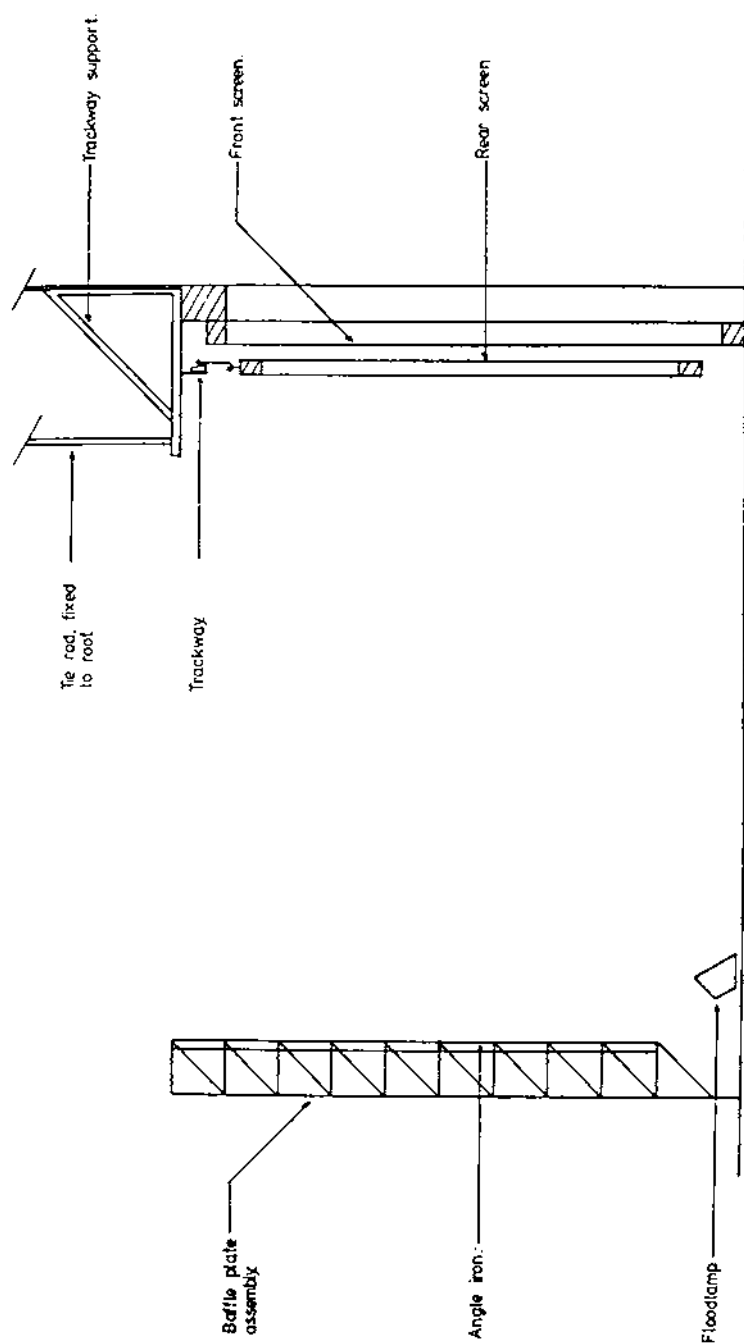
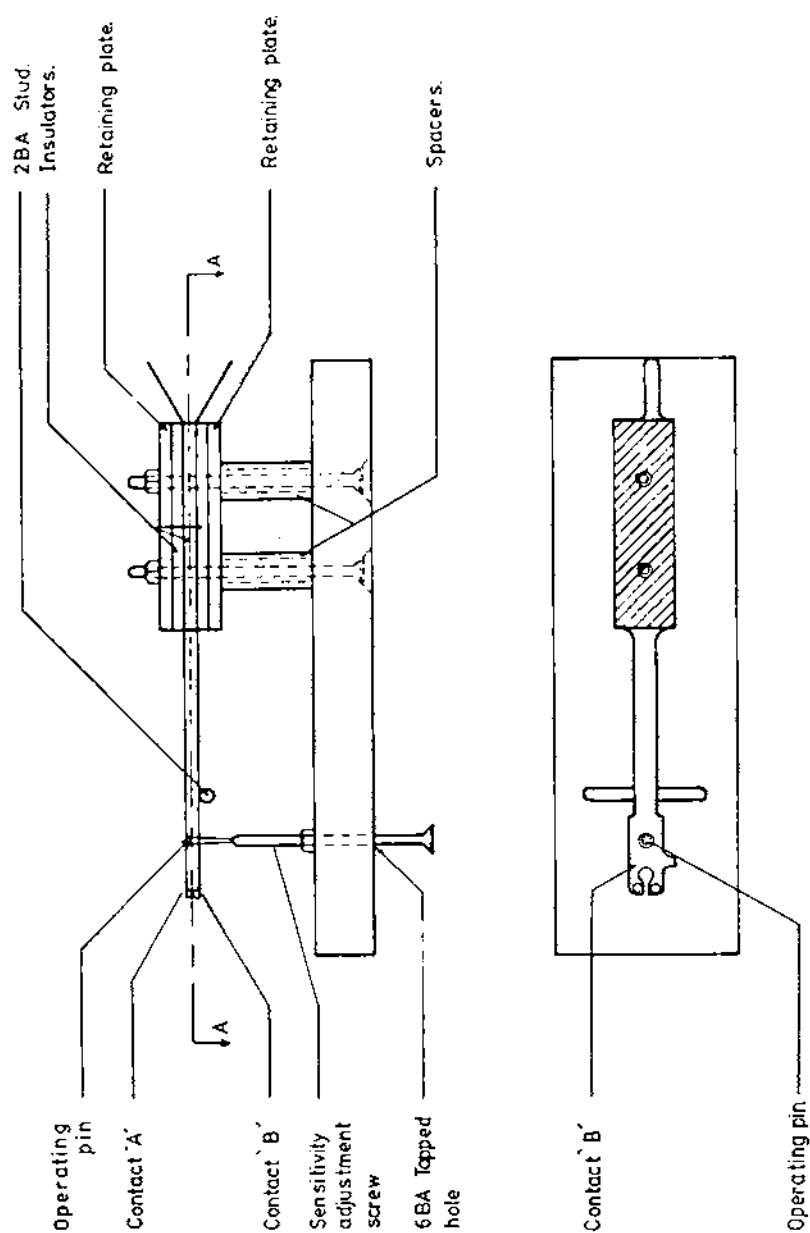

Fig 2. Sectional View of Screens.
Fig 5. Trembler switch made from normally closed relay.
- (f) Light from the floodlights situated behind the rear screen (see Fig 2), penetrates the bullet holes through the screens and the firer thus sees a pinpoint of light where his shot has actually hit the target.
- (b) *Rear Screen.* This was similarly constructed but was hung on a trackway (see Figs 2 and 3).
- (1) *Front Screen.* The hessian covering was fitted to the rear edge of the frame.
- (2) *Rear Screen.* The hessian covering was fitted to the front edge of the frame.
- (d) *Rear Screen Trackway.* As shown in Figs 2 and 4 a trackway was suspended
(j) *Trembler Switch.* A vibration transducer (0-2g) was originally used but its sensitivity was insufficient when the 6.5m Carl Gustav indoor training round was used. Instead, a normally closed set of contacts from a relay were taken and fixed with araldite to a vertical length of angle iron which was welded to the end of each baffle plate, (see Fig 2). It does not matter whereabouts the shot hits the baffle plate, for the contacts will vibrate and a suitable adjustment on the sensitivity screw (see Fig 5) will cause the relay in the control unit to operate. This adjustment can be made so fine that vehicles passing outside the range will operate the relay until the relay is desensitized.